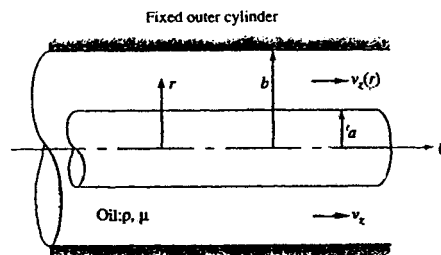

Fig. P4.88
**4.88** The viscous oil in Fig. P4.88 is set into steady motion by a concentric inner cylinder moving axially at velocity  $U$  inside a fixed outer cylinder. Assuming constant pressure and density and a purely axial fluid motion, solve Eqs. (4.38) for the fluid velocity distribution  $v_z(r)$ . What are the proper boundary conditions?